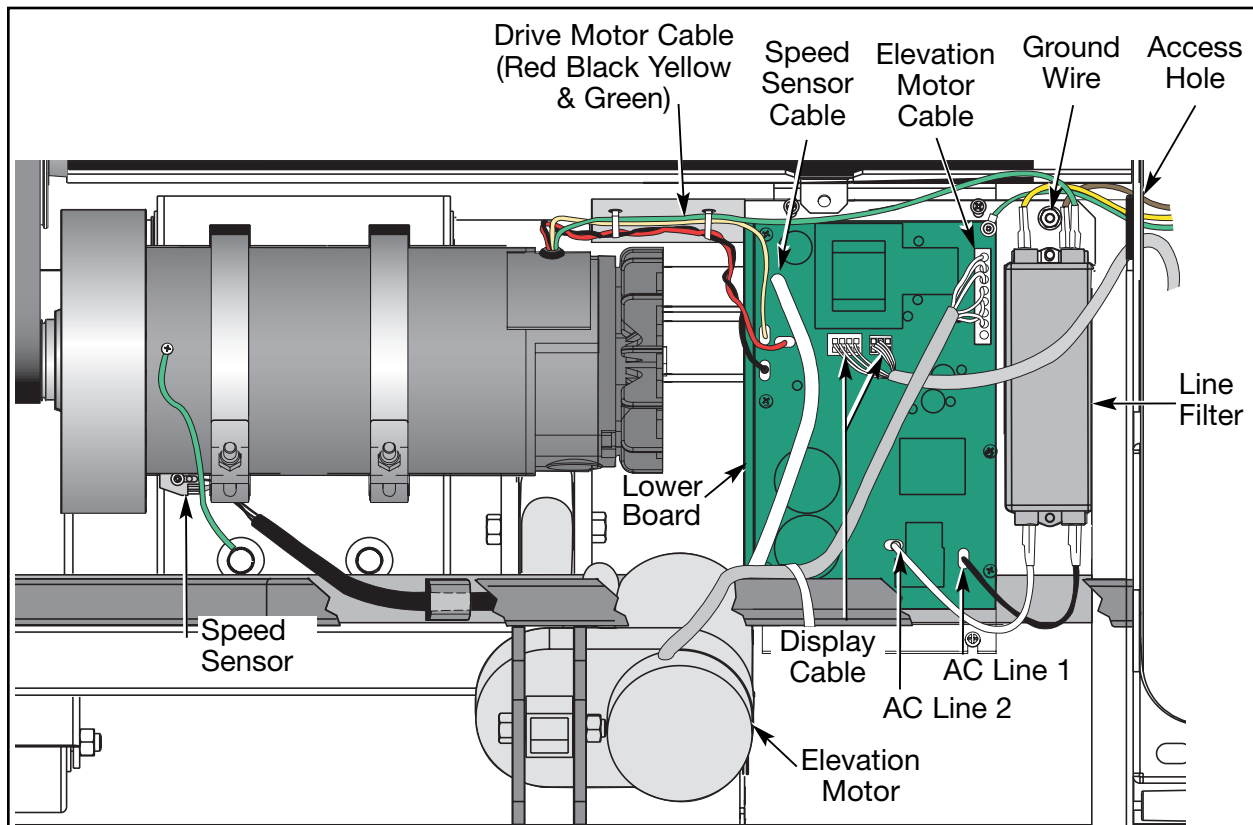

Figure 21
- A.** Connect the cables to the lower control board. This includes: the elevation motor cable; display cable (P1 and P2); AC line 1 (black); AC line 2 (white); drive motor (black, red, yellow) and speed sensor cable. See Figure 21.